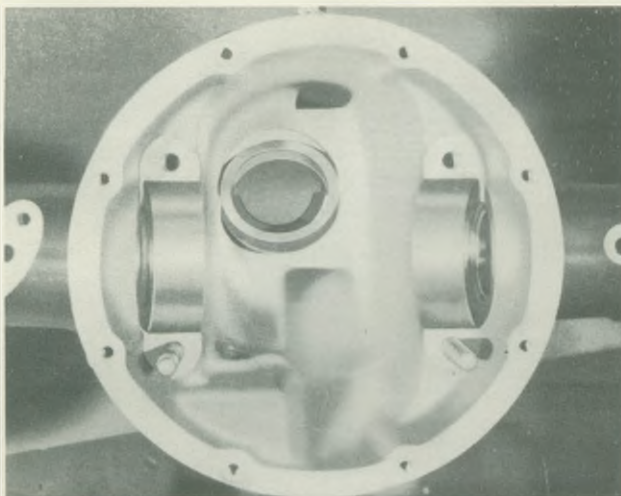
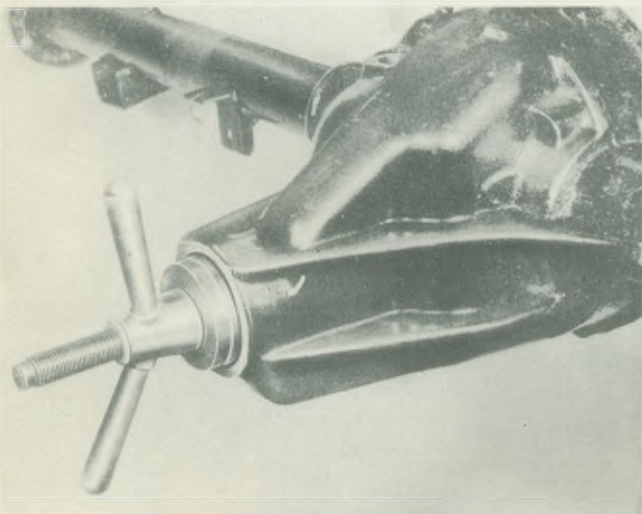

Fig. 24. Showing position of pinion head bearing shims on abutment face
Fig. 25. Fitting pinion bearing outer rings
8. Having made the first check for pinion head bearing shimming, install the calculated thickness of shims placed on the head bearing abutment face, as shown in Fig. 24 (these shims should be measured with a micrometer) and pull in outer ring of pinion tail and head bearings with special tool, as shown in Fig. 25 (both outer rings are installed together).